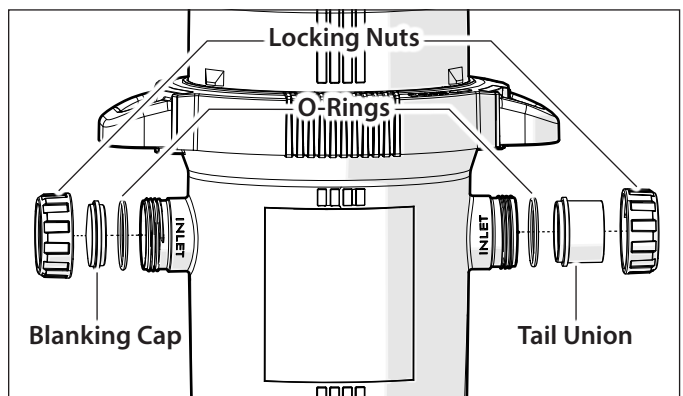

Figure 6. Inlet Fittings
7. Install the O-ring on the tail union, then screw the locking nut onto the active inlet. The O-ring must be clean and avoid any twisting. Install the tail union on the outlet of the filter in the same manner (*Figure 6*).
8. Block the second (passive) inlet using a blanking cap, O-ring and locking nut (*Figure 6*).